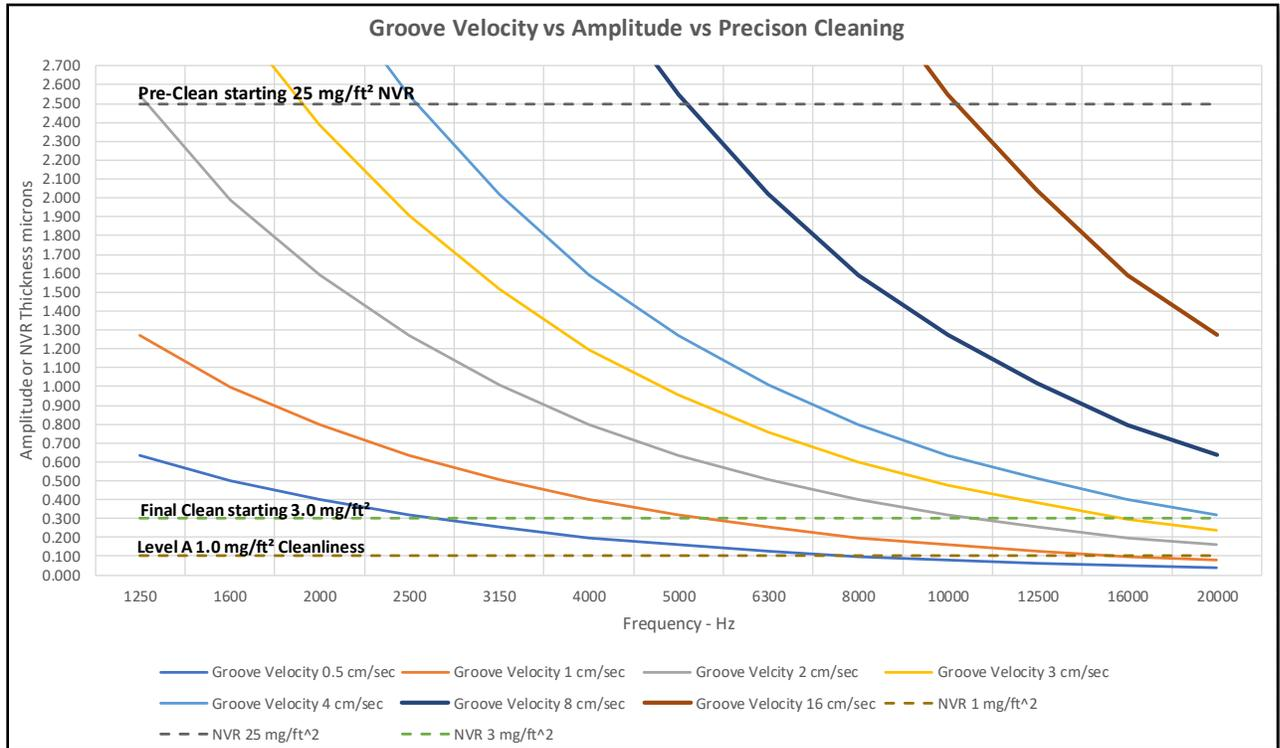

Figure 46 – Groove Velocity vs Amplitude vs Contamination Levels
XI.6 **Figure 46** focuses the data to show the overall cleaning process of **Table XVII** with groove velocity data from **Table XVIII** into the zone of precision cleaning where the amplitude is less than 2.5 microns and where there can still be a lot of music. This is likely the area that experienced listeners report ability to hear loss of high frequency detail; the detail that allows the listener to hear into the instrument and into the soundstage. A surfactant film thicknesses (from NVR) less than 0.5 microns (left as a result of no-rinse or insufficient rinse) can still cover a wide range of frequencies.
- XI.6.1.b If the residue coats only the side-wall ridge valley, then the stylus may not deflect/trace the full peak-to valley height and high frequency detail can be attenuated/lost. Recalling the DIY cleaners from **CHAPTER VIII. DISCUSSION OF PRE-CLEANERS**; some are over 1000 mg/L (1 mg/ml) and if 3 mL was allowed to dry, the resultant NVR could be 3 mg/ft² with a resultant film thickness greater than 0.3 microns which by **Table XVIII & Figure 46** should be audible.
- XI.6.2 **Figure 46** shows that Level A = 1 mg/ft² should not interfere with most if any music; except for high frequency 0.5 cm/sec (-6 db) and therefore should be an acceptable NVR criterion for general record cleanliness. However, the preceding discussion of the NVR film has assumed it is uniform on the record. Instead, a more variable distribution is possible. Applying a simple Gaussian (normal) distribution for a nominal NVR of 1 mg/ft² = 0.1-microns, the actual film thickness could realistically vary from as low as 0.04-microns to as thick as 0.2-microns. So, depending on the individual record dynamic range, even Level A = 1 mg/ft² may be insufficient for very experienced or sensitive listeners.